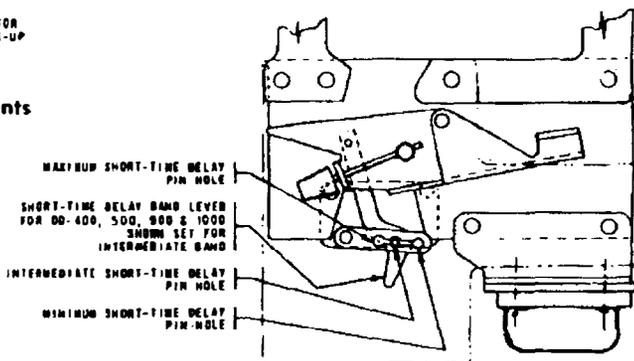

Fig. 11 — Short-Time Delay Band Adjustments
- While lightly pushing at point "A" so that the lever (2) does not move through its full stroke and trip the circuit breaker, momentarily apply the voltage (3 V) from two dry cell batteries, size "D", to the two wires (+ to wire 16, — to wire 15) that were disconnected in operation 2. The magnetic latch should trip.
- Gradually release the hold on lever (2).
- While holding the lever (2) in the tripped position, turn in on screw (1) until the circuit breaker just trips, then turn in one additional turn.
**Short Time Delay Adjustment** (See Figure 11)